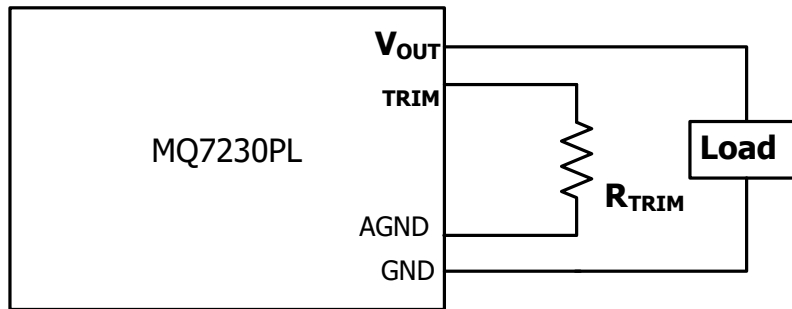

Fig3. Circuit configuration for programming output voltage using external resistor
**MQ7230PL2**'s output voltage can be trimmed in certain ranges. See Figure 3 for the 2 programming methods. See Performance Specifications for allowable trim ranges in detail. Also customized products are offered.